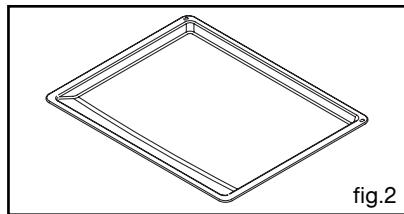

fig.2
• **Multi-purpose dish (fig.2)**